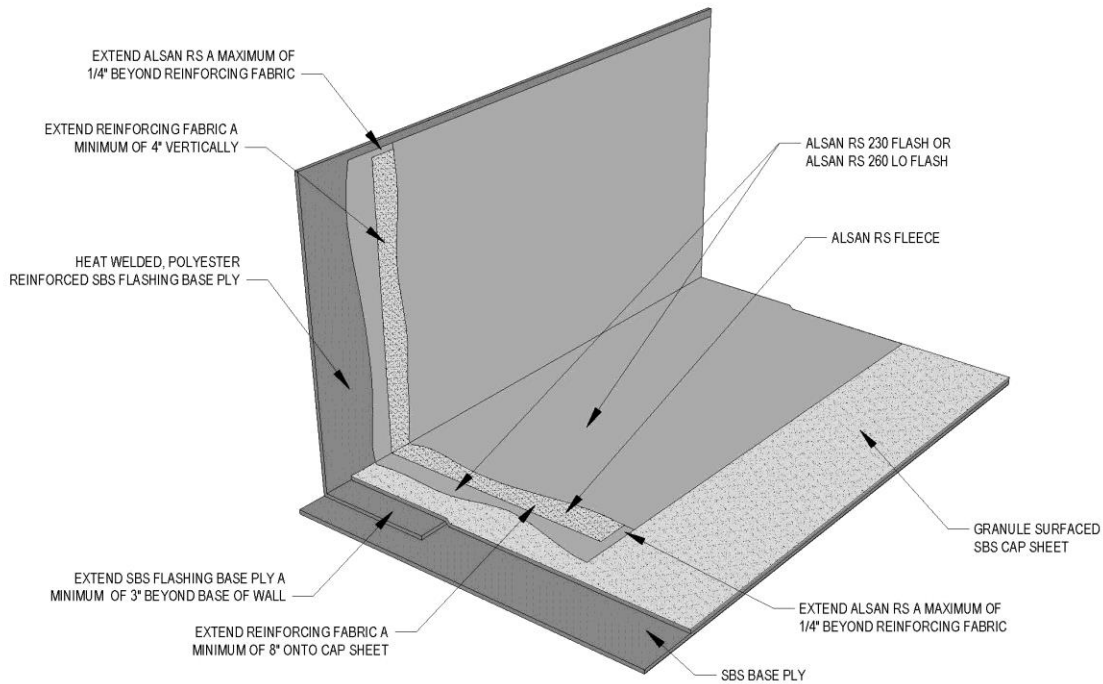

Figure 4.1a ALSAN® RS Wall/Curb Flashing with SBS Flashing Base Ply on Granular Surfaced Cap Sheet Without Cant
- SOPREMA® offers ALSAN® RS 230 FLASH or ALSAN® RS 260 LO FLASH liquid-applied, reinforced flashing systems are recommended for SBS modified bitumen membranes to form a waterproof seal at roof transitions, terminations and penetrations. Refer to Figures 4.1a through 4.1p.